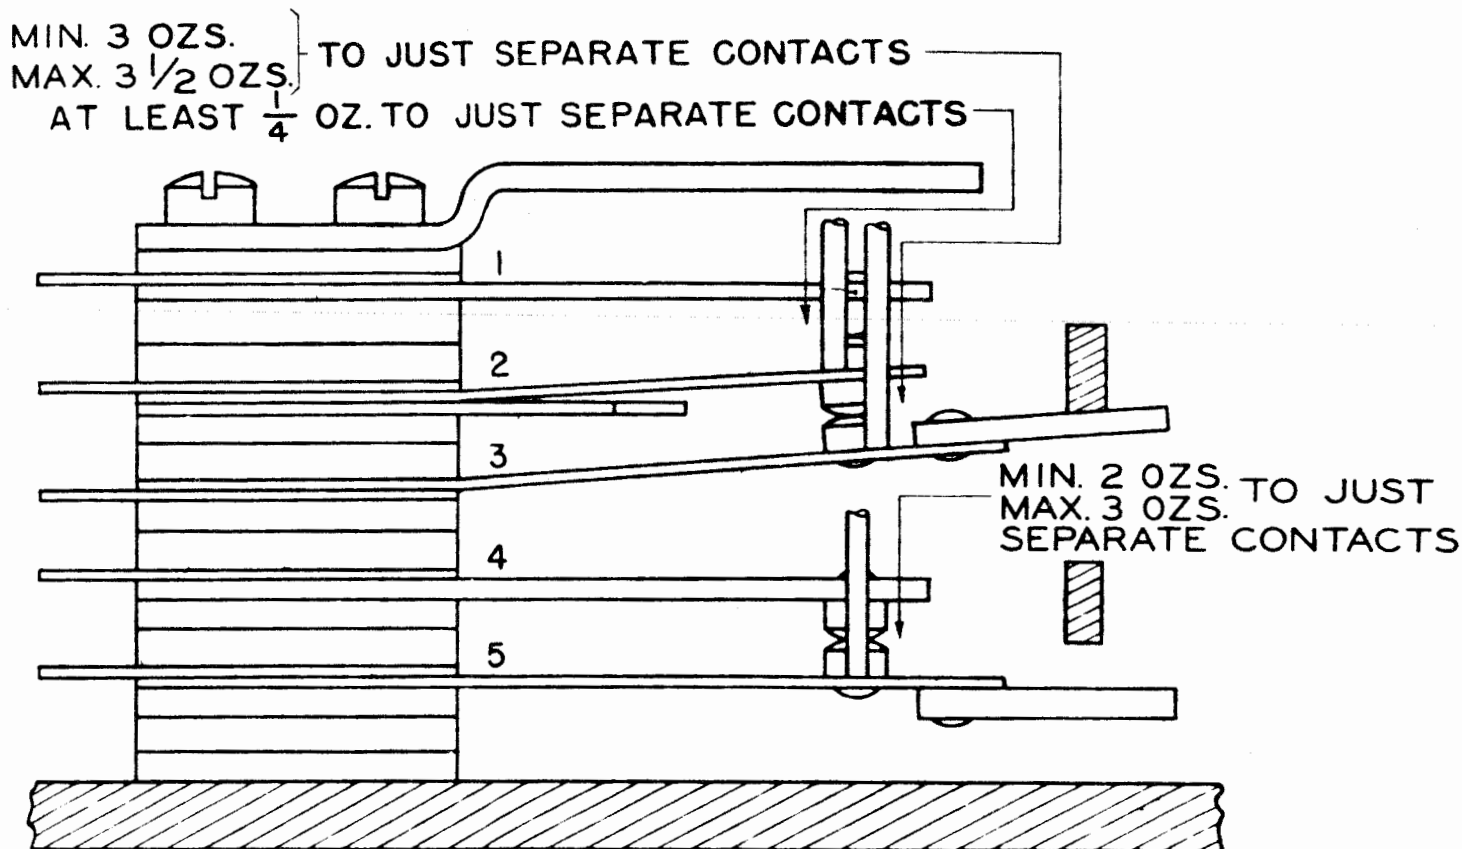

Figure 27
3.03 Keyboard-control Contact Springs should meet the following requirements when the keyboard-control operating lever is in the lower TAPE position. See Figure 27.